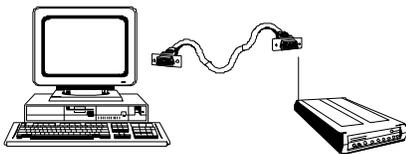

Fig 4-2. Serial Port to Serial Port Connection
- two (2) 386/486 IBM PCs with one DB-25 or DB-9 serial port each
- two (2) **straight through serial cables**, with a male DB-25 at one end for WINC 900A and a male/female DB-25/DB-9 at the other end for the serial port of your PC.
2. Connect the DB-25 serial port of the WINC 900A to the serial port of your computer **using a straight through serial cable with RS-232 DB-25 connectors at each end.** (please refer to Fig. 4-2) Although the WINC 900A is configured to accept a DB-25 connector directly, a DB-9 connector may be used with the proper adapter. (The cable with connector is not supplied with the WINC 900A, but is available from most computer retailers and electronics suppliers.)